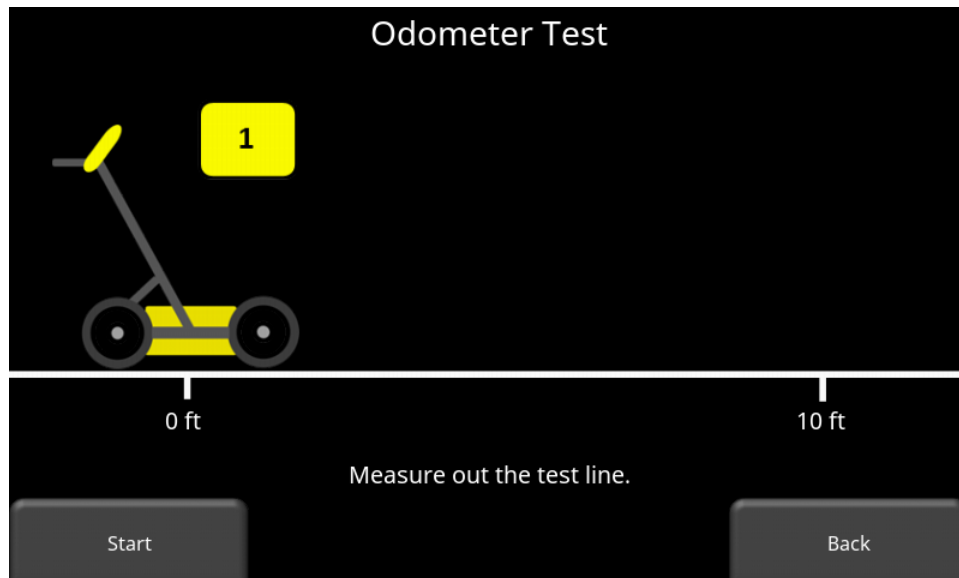
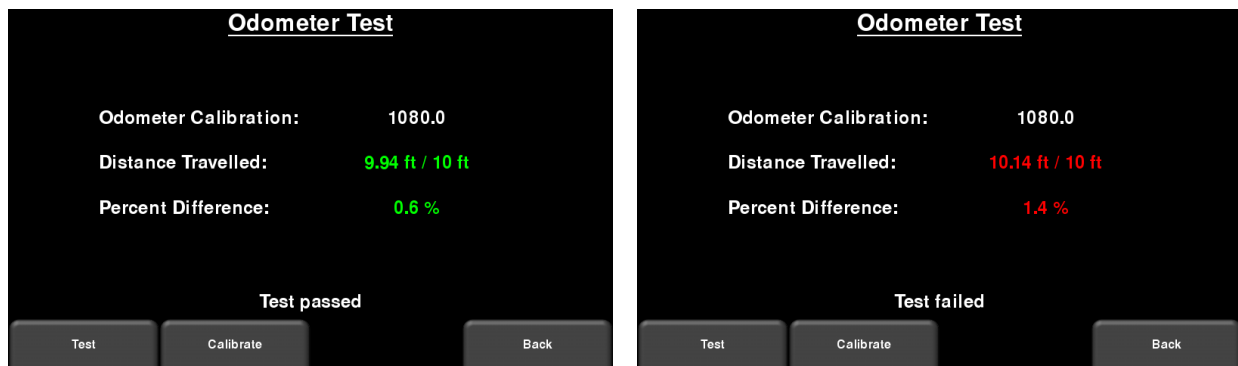

Figure 4-18: Doing an odometer test
Figure 4-19: Odometer Test passed on left, failed on the right
- **Odometer Test** – This test verifies the odometer is calibrated properly. It involves moving the system a set distance (5m or 10', depending on units used), and comparing the value obtained to a known value. The screen in Figure 4-18 will be displayed once Odometer Test is pressed. Press **Start** to begin and then press **Finish** when you've moved that distance. It will display a pass or fail, along with a percentage difference from the known value (Figure 4-19).